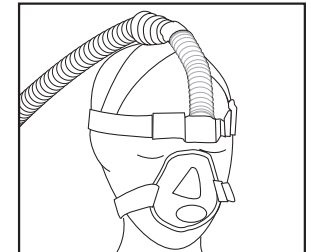

Figure 7
- Position mask loosely on face. Adjust headgear straps so mask is snug and comfortable (**Figure 7**).